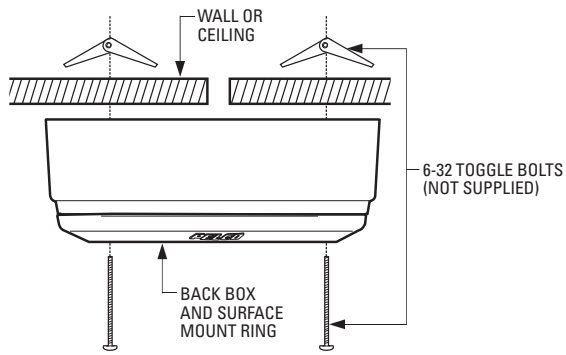
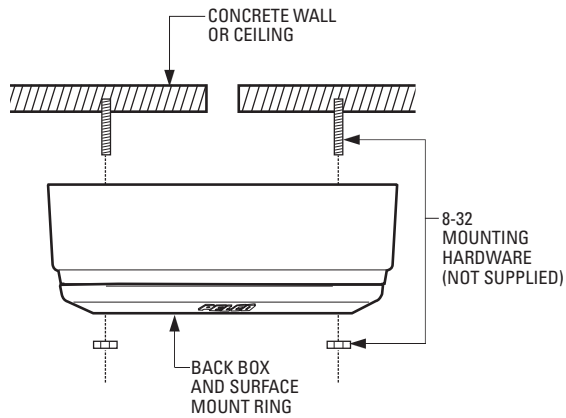

Figure 3. Ceiling/Wall Installation
Figure 4. Concrete Ceiling/Wall Installation
1. Using the template that is supplied, mark the holes on the ceiling/wall for mounting the camera system and for installing the wiring. Drill the holes. Refer to Figure 3 or Figure 4.
5. For a non-concrete ceiling/wall, use 6-32 toggle bolts to attach the surface mount ring and back box to the mounting surface (refer to Figure 3). For a concrete ceiling/wall, use 8-32 mounting hardware (refer to Figure 4). Mounting hardware is not supplied.